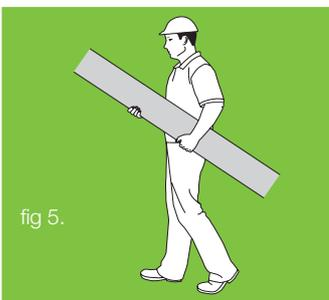

fig 5.
- If only one person is carrying the product, hold it in the middle and spread arms apart to better support the product (figure 5).